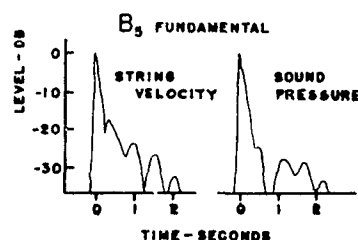
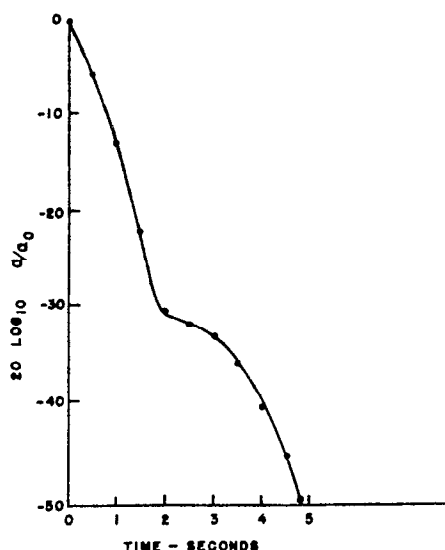
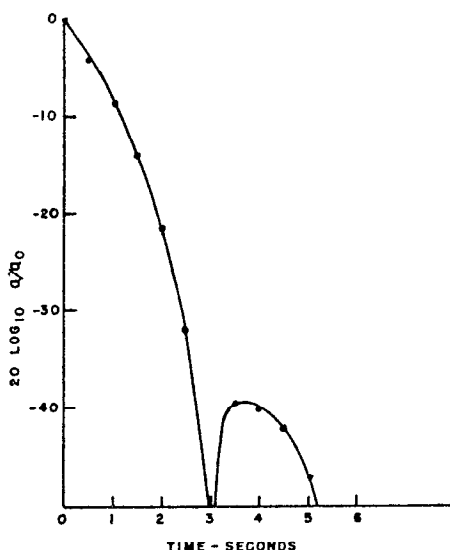

FIG. 7. Comparison of string vibration velocity level and piano sound pressure level versus time for the fundamental of a piano tone  $B_5$ .
FIG. 11. Logarithmic plot of Eq. (2) for  $f_0 = 440$  Hz,  $\alpha = \beta = 0.25$  Hz.
FIG. 12. Logarithmic plot of Eq. (2) for  $f_0 = 440$  Hz,  $\alpha = 0.1$  Hz, and  $\beta = 0.22$  Hz.
However, linearity of energy transfer from the string termination, through the bridge and the soundboard, to a point in space at discrete frequencies in steady state does not necessarily mean that a level recording of the sound pressure at that point will correspond to a level recording of the combined mechanical vibration of the string sources. Many examples have been studied, and correspondence is frequently but not always very close. The example shown in Fig. 7, for the fundamental of tone  $B_5$ , illustrates the difference which may be observed in fine detail. There is in general a sufficiently close correspondence to rule out the possibility of mechanical energy storage for subsequent acoustical radiation. However, some cases are even more dissimilar in fine detail than the example of Fig. 7.
Logarithmic plots of Eq. (2) are shown in Figs. 11 and 12. For both these plots a frequency  $f_0$  of 440 Hz was chosen. For Fig. 11,  $\alpha$  and  $\beta$  were each chosen to be 0.25 Hz (1 cent). For Fig. 12,  $\alpha$  was chosen to be 0.1 Hz (approximately 0.4 cent) and  $\beta$  to be 0.22 Hz (approximately 0.9 cent).
A change in decay rate occurs. In Fig. 11 the decay rate goes through a maximum at about  $1\frac{1}{2}$  s after onset, and a minimum at 3 s. In Fig. 12 the level falls to a sharp minimum, followed by a maximum, somewhat in the manner of the sound pressure level curve of Fig. 7. Thus piano tones sustained by the pianist for several seconds can be expected to exhibit a decrease in average decay rate due to interference.
An overall piano tone would, of course, be represented by a group of generators, one for each mode of each string. Because the modes of a string are not exactly harmonic, the minima would occur at slightly different times for different modes. Thus the overall tone would generally tend to have less drastic minima than shown in Fig. 12.